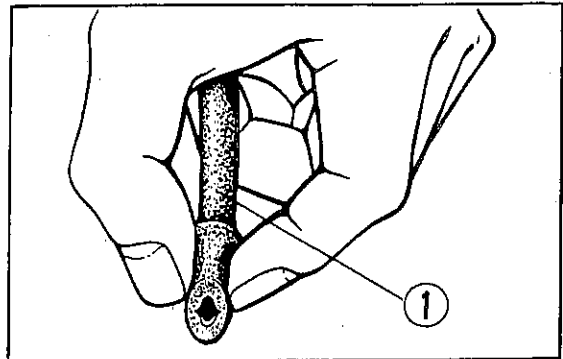

Fig. 2-14 ① Drain tube
6. Squeeze the end of the drain tube as shown in Fig. 2-14 and drain any oil or water that remains in the tube.